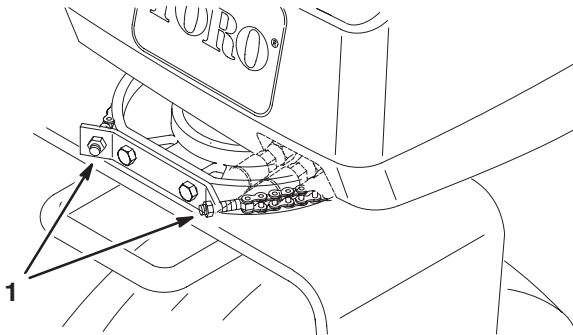

Figure 25
2. Adjust the locknuts until the chain is snug on both sides of the sprocket (Fig. 25).